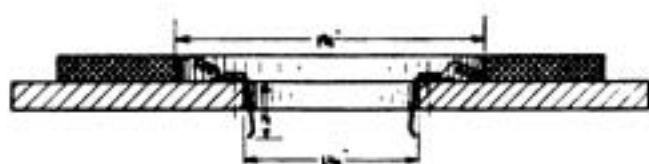

Fig. 3.
**THE TUNING STAND.**—This and the slab mounts are made of wood, but ebonite would look better. The horizontal bar D is 9 ins. by  $\frac{1}{8}$  in. square. The vertical one  $3\frac{1}{2}$  ins. high and morticed into the other, not screwed. The horizontal bar has a  $\frac{7}{16}$  in. strip of brass along each vertical face connected to aerial and earth respectively, by flexible leads running down in front. Short strips top and bottom, 2 ins. long, are provided for reaction coil, A, connected to leads running down the back to plate and transformer. Small wood screws secure the strips at the ends, which, having been first drilled, are then dented into the soft wood with a centre punch so that the screw heads are flush. Avoid putting the screws exactly opposite or they may short circuit. Each inductance slab is tied on to a piece of wood and the ends of the wires taken to two small L-shaped contacts on opposite sides of the central  $1\frac{1}{16}$  in. square clearance hole—(see photo. and Fig. 3). After finding which way round each coil has to be to react, a strip of red paper is glued on the front edge as a guide.